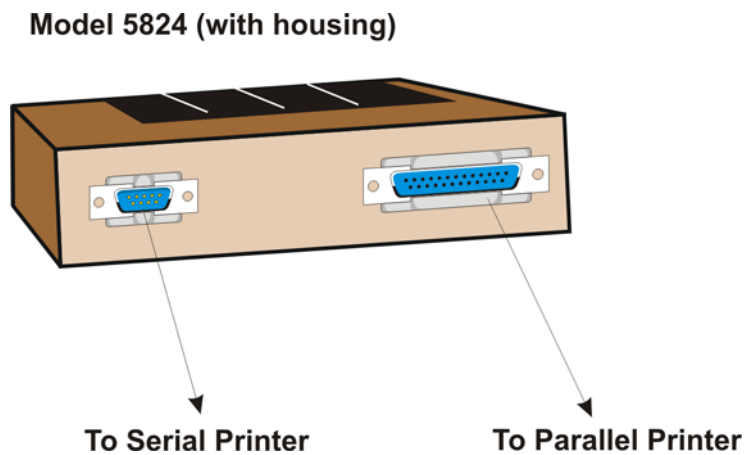

Figure 4-19 Printer Connection
5. Connect a printer to the 5824 as shown in Figure 4-19.